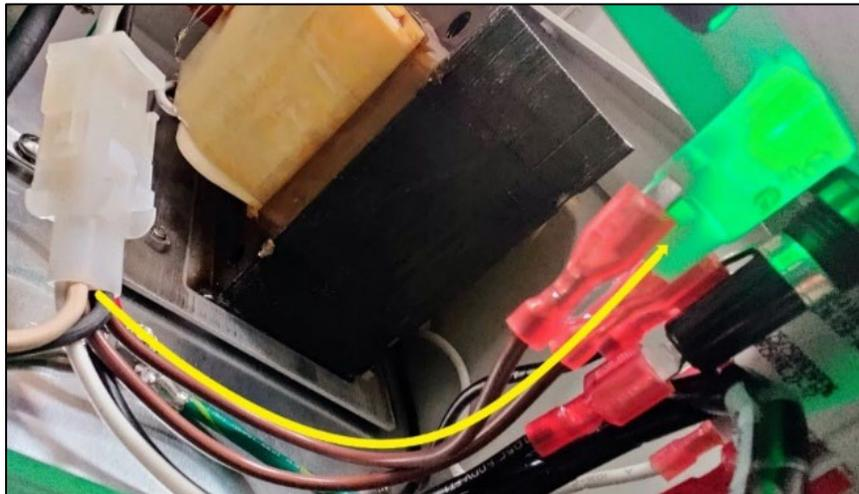

Figure 17 Connecting the Brown Wires, Below View
5. Plug the Power Conditioner's brown wires into the back of the new green LED (Figure 17). The brown wires can go to either terminal; there is no polarity. The following images show the connection from above and below.